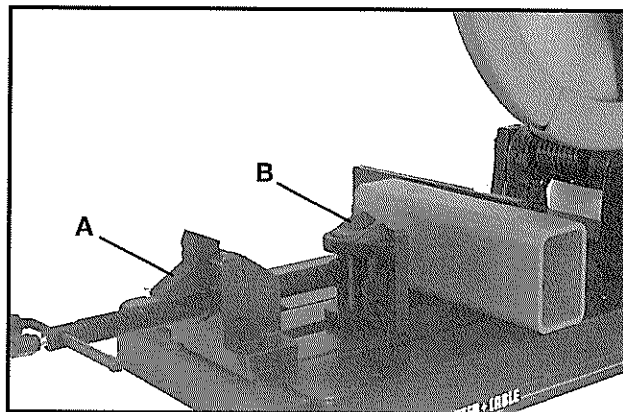
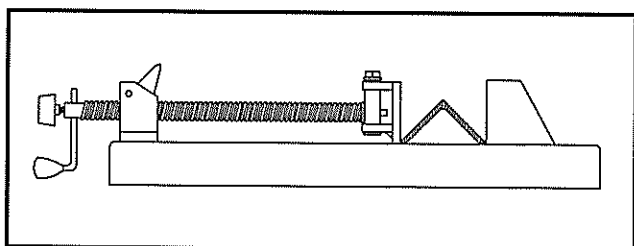

Fig. 9
Fig. 10
Move clamp locknut (A) Fig. 9 to the rear. Slide rear vise jaw (B) Fig. 9, to the rear enough to permit workpiece to be placed between vise jaws. Position workpiece into work vise (see Figs. 10 thru 15 for recommended